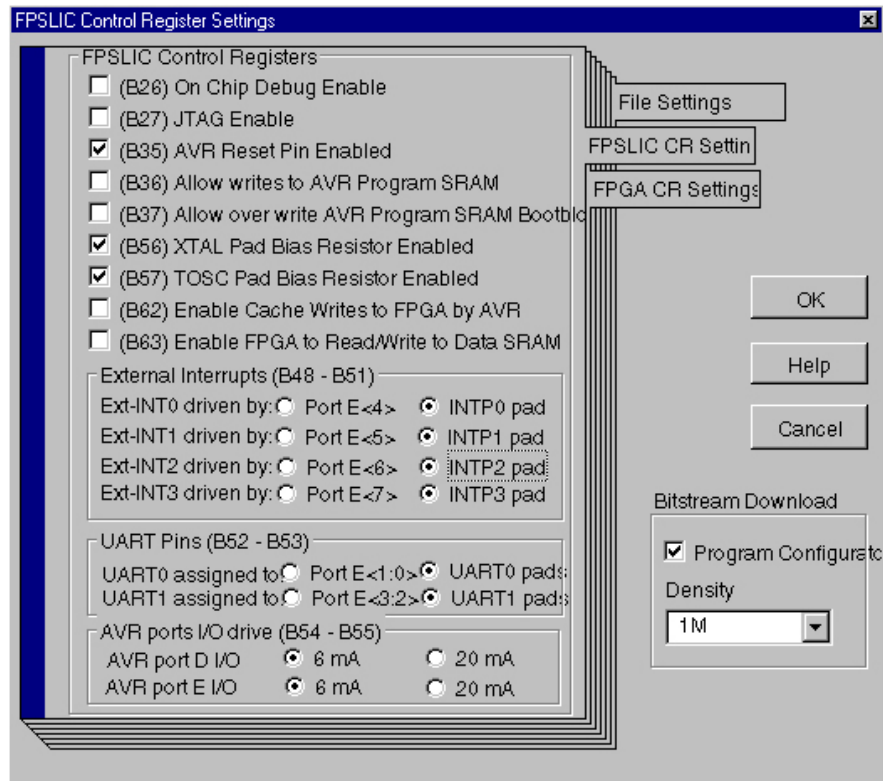

Figure 4: Bitstream Control Register Settings
5. Press the “FPSLIC Control Register Settings” Tab and confirm that the options are set according to **Figure 4**.